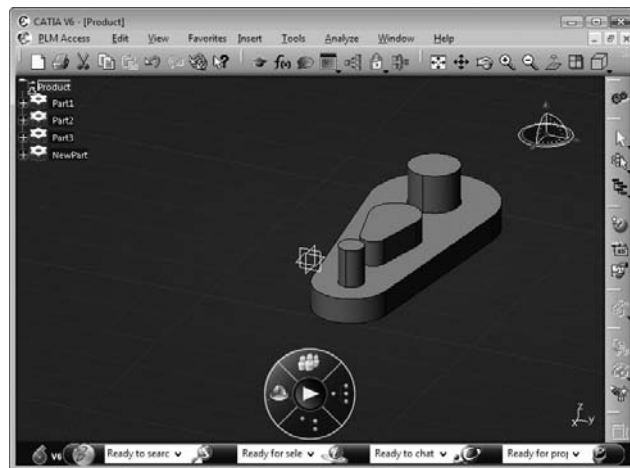

FIGURE 4.38
1. *Create* an assembly in the Assembly Design workbench, as shown in **Figure 4.38**: